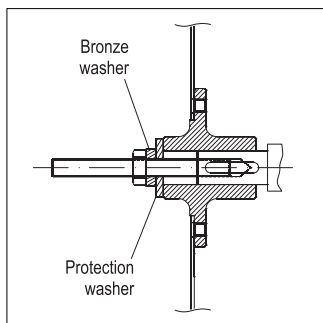
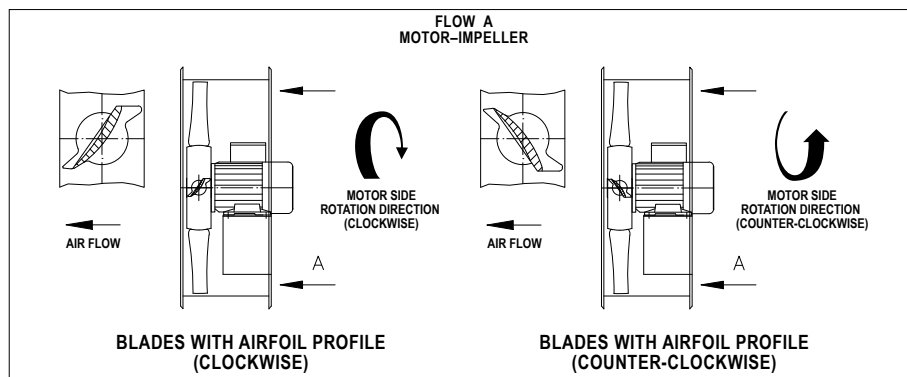
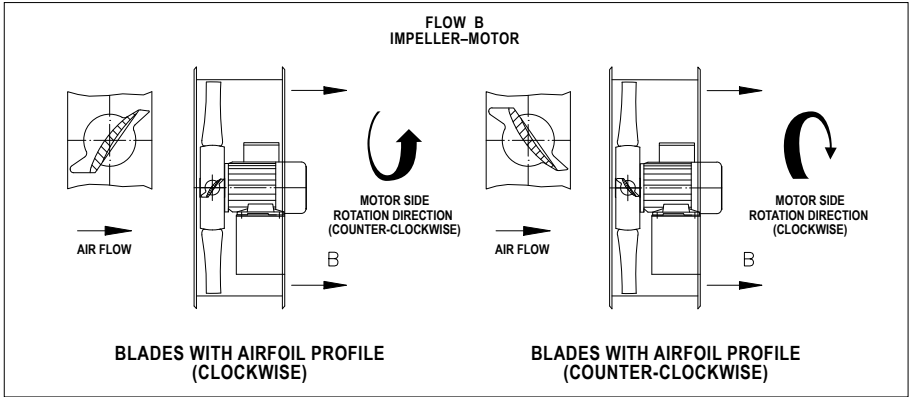

FIG. 17 (Assembling)
FIG. 19 (Flow "A")
FIG. 20 (Flow "B")
5.4.2- Assembling and disassembling the “simple suction” and “axial” impeller (FIG. 17÷FIG. 20)
- 2) Insert the screw with a protection washer and screw the nut on the screw in order to push the impeller against the shoulder and fasten it (s. FIG. 17).
N.B. For the axial fans, verify the correct direction positioning of the impeller (see assembling instructions FIG. 19 and FIG. 20).